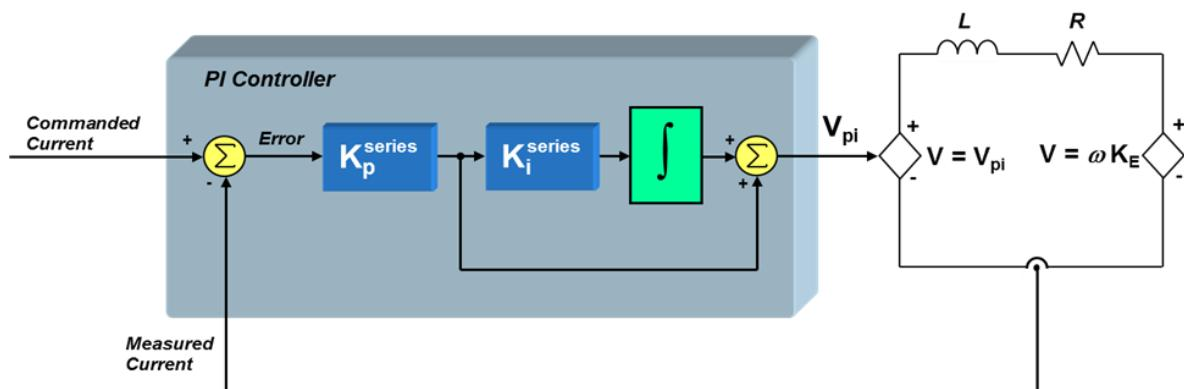

Figure 17: Series PI current controlled motor system including the stator.
A popular form of the proportional-integral (PI) controller (and the one used for this lab) is the “series” topology which is shown in Figure 17.